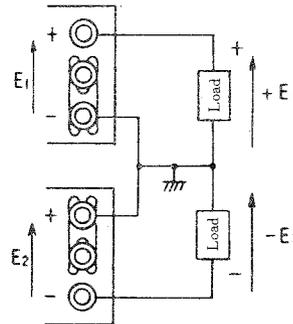

Fig.5.
b. For connection as in Fig.5, where an intermediate point is hooked up to ground, the configuration can be used as a plus/ minus power supply.